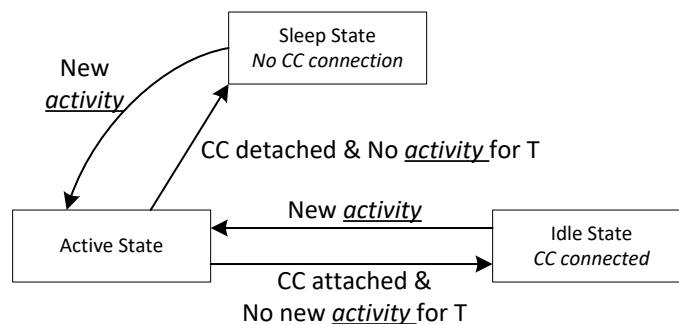

図 7-24. Flow Diagram for Power States
- (1) See 表 7-5 to see the exact meaning of I²C Address Index.
(2) See 表 7-2 for how to configure a given ADCINx decoded value.
The TPS26750 can operate in one of three different power states: Active, Idle, or Sleep. The Modern Standby mode is a special case of the Idle mode. The functionality available in each state is summarized in 表 7-7. The device automatically transitions between the three power states based on the circuits that are active and required. See 図 7-24. In the Sleep state, the TPS26750 detects a Type-C connection. Transitioning between the Active mode to Idle mode requires a period of time (T) without any of the following activity: